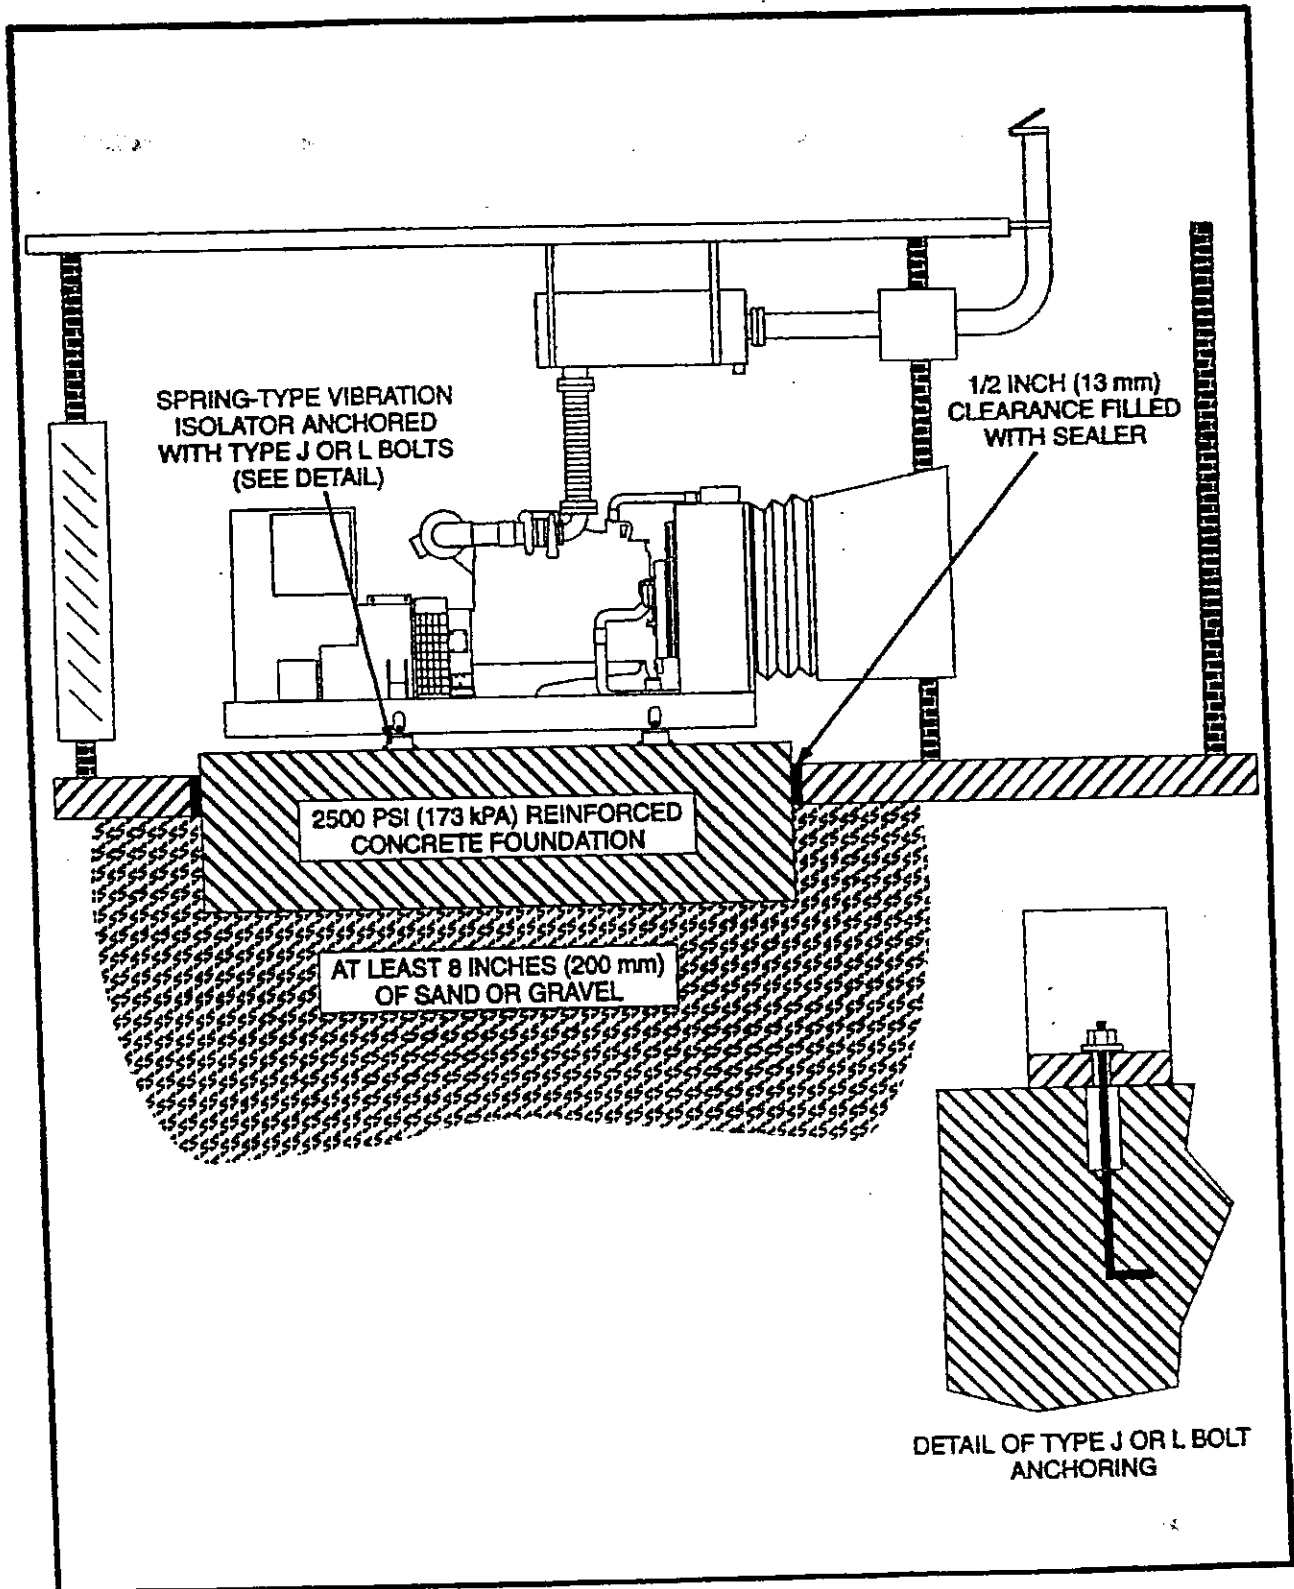

FIGURE 20. TYPICAL VIBRATION ISOLATING FOUNDATION
When a generator set is mounted on a foundation to reduce the transmission of vibrations to the building, the weight (W) of the foundation should be at least 2 times the weight of the set itself to resist dynamic loading. (The weight of fuel in a sub-base fuel tank should not be considered as contributing to the weight required of a vibration isolating foundation.) Figure 20 illustrates a typical vibration isolating foundation. Consider the following:
- Calculate the height (h) of the foundation necessary to obtain the required weight (W) by using the following formula: